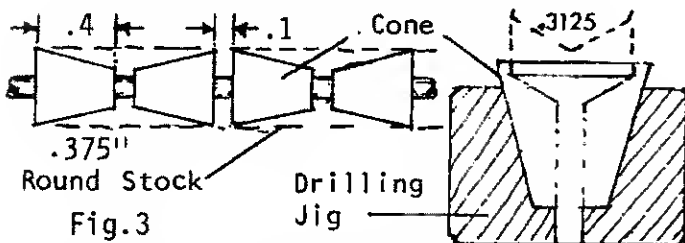

Fig. 3
Several cones can be turned at once and then cut into separate pieces. (Fig. 3)
d. Place finished cones in a drilling jig on a drill press. (Fig. 3) Drill through cone with a .0625" dia drill.